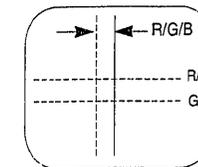

Fig. 2-1-4B(c)
- (5) Turn the 6-pole magnet with its knobs open and match the green horizontal line at the center of the screen to the blue/red horizontal lines as shown in Fig. 2-1-4B(d).